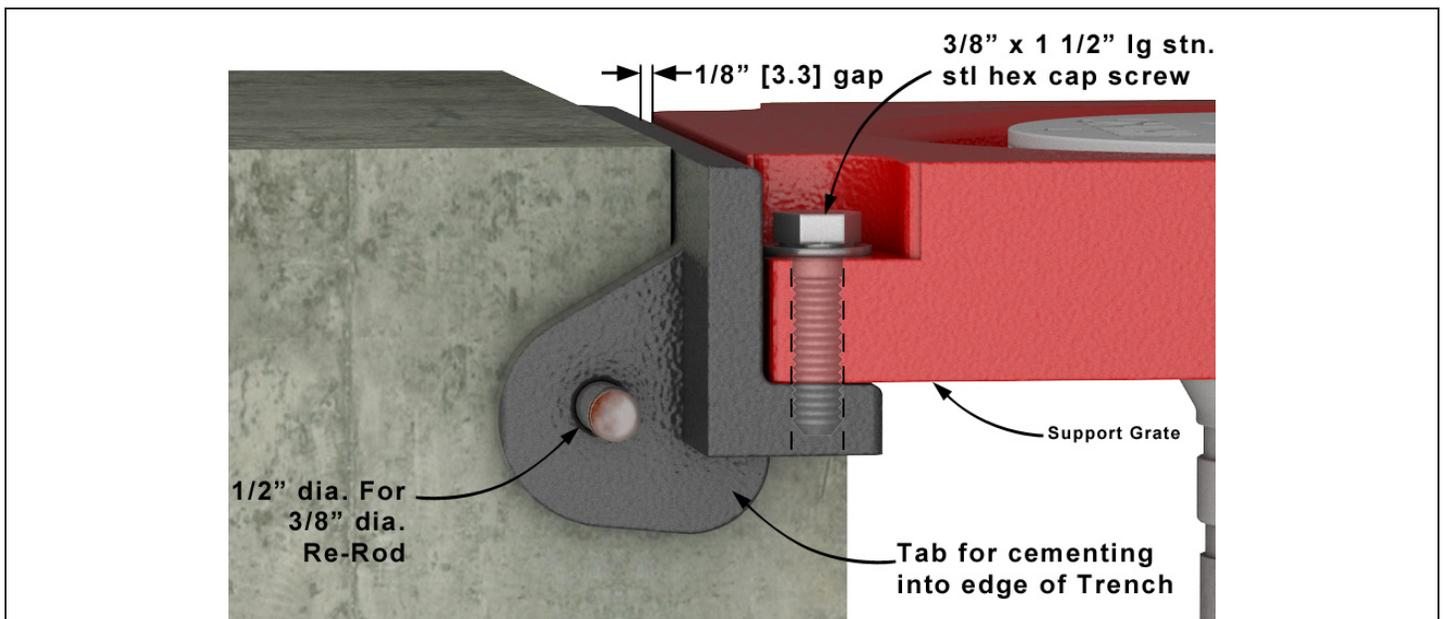

Figure 5 - X-Frame Detail
3. The "X" frame furnished with the Grate Nozzle assembly shall be set in concrete using re-rod as shown in Figure 5. Positioning must be flush with floor, aligned for bolting of grate to frame and placed to accommodate the remaining grate drainage system.